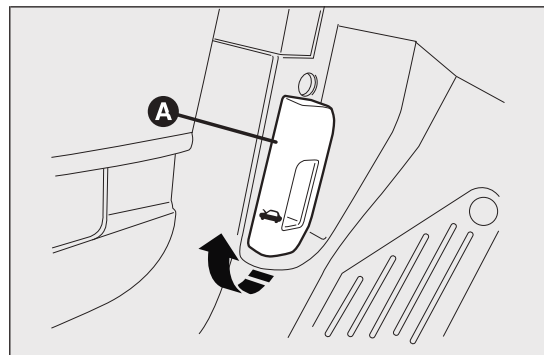

fig. 84
- pull lever A fig. 84 in the direction indicated by the arrow;